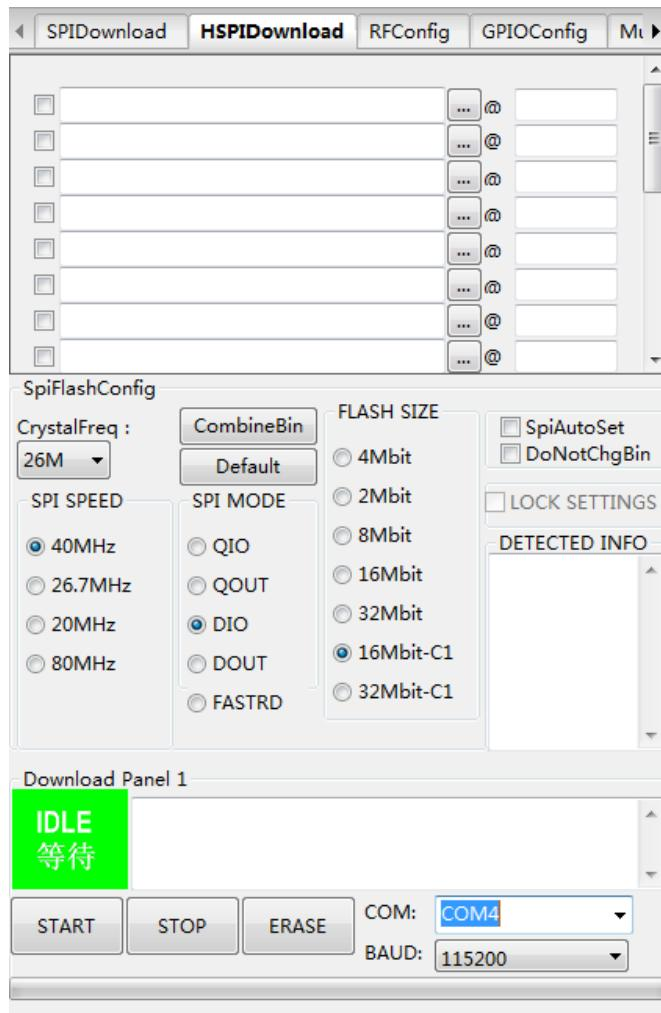

Figure 4-12. ESP8266 DownloadTool – HSPIDownload
- Here, the HSPIDownload tab should be selected, **CrystalFreq** should be set to 26 M and the **SPI MODE** should be set to **QIO** or **DIO** based on your actual case, as shown in Figure 4-12. Otherwise, the downloaded firmware may not be running as expected.